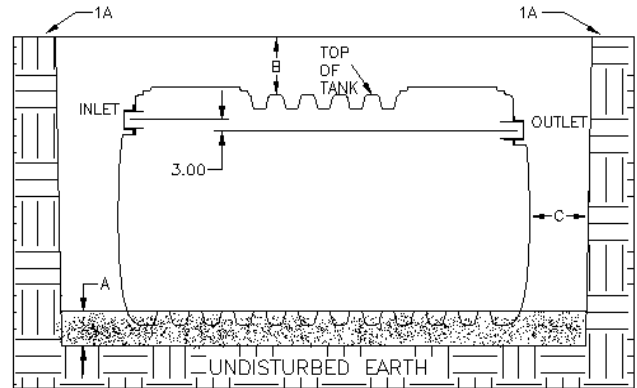

Figure 1: Excavation
1. Excavation (Figure 1)
- c. Excavate and provide a well-compacted support layer of sand / gravel mixture so that dim. (A) is a min. of 6" for soil terrain and 12" for rock terrain.
- d. Allow dim. (B) to be a min. of 8" and a max. of 36".
- e. Allow dim. (C) to be a min. of 18" and a max. of 24".